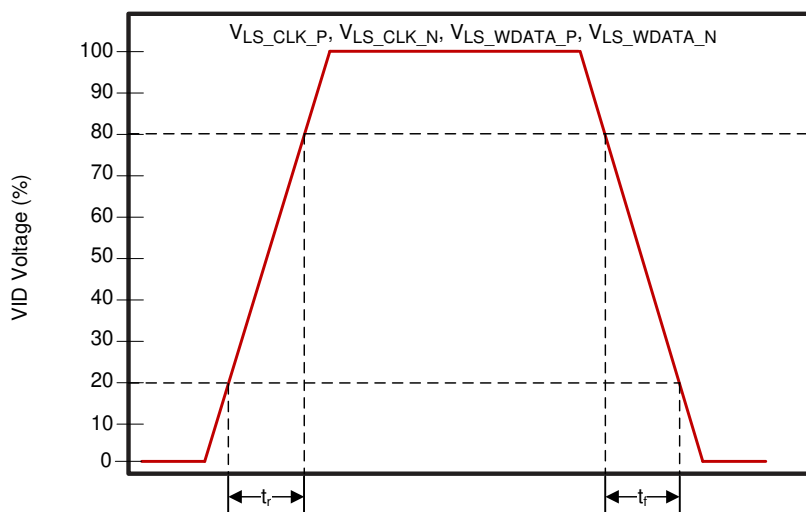

图 6-6. LSIF Rise, Fall Time Slew Rate
(2) See Figure 6-6 for rise and fall time for LSIF.